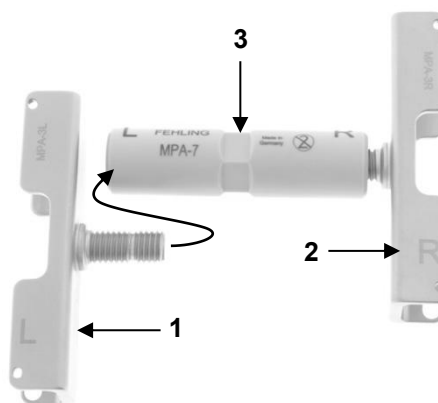

Fig. 13: CALAFIORE sternal retainer with sternal blade mounted on one side
Screw one suitable sternal blade with left-hand thread (1) and one with right-hand thread (2) into the PEEK nut (3) as far as they will go (Fig. 13, curved arrow). Align the system in such a way that a symmetrical arrangement is achieved.